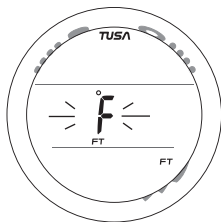

Fig. 50 - SET UNITS
**SET UNITS**, information includes (Fig. 50):